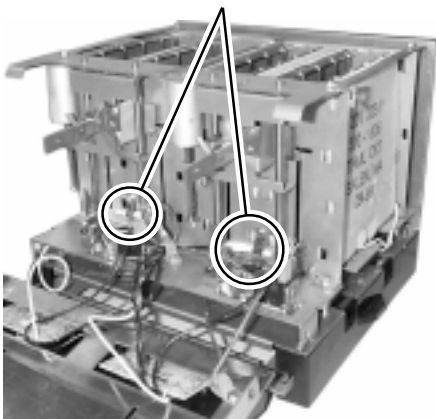

Figure 2
- Loosen the sensor mounting screw, shown in Figure 2.